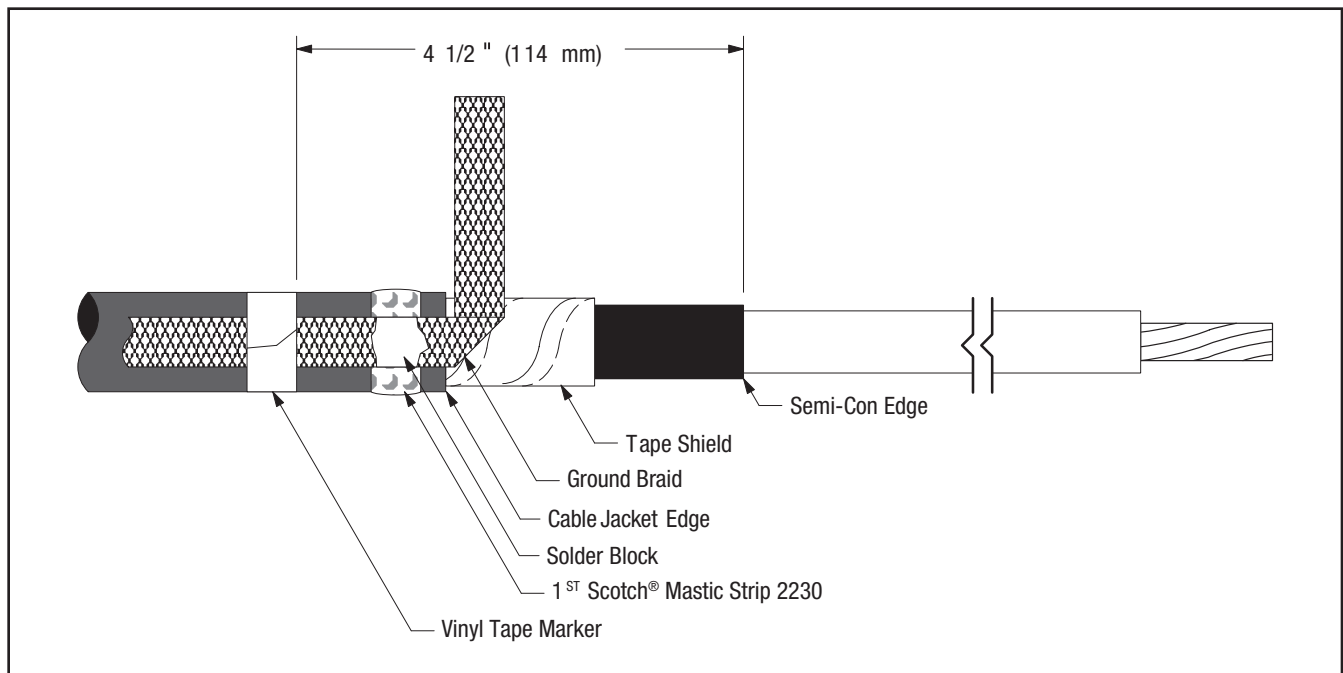

Figure 3
3.2 Position preformed ground braid with short tail over tape shield directly adjacent to cable jacket cut edge. PLEASE NOTE: The ground braid needs to make full contact with the metallic shield. Position long tail of ground braid, extending over cable jacket with solder block over mastic strip (Figure 3). Secure ground braid to cable jacket 4 1/2" (114 mm) from cable semi-con edge using vinyl tape (Figure 3).